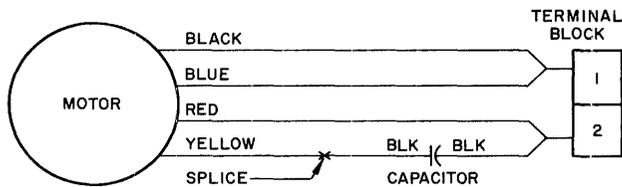

Figure 6-21
Step 5: Reconnect the wiring (see Fig. 6-21) and install the assembly on the transport.